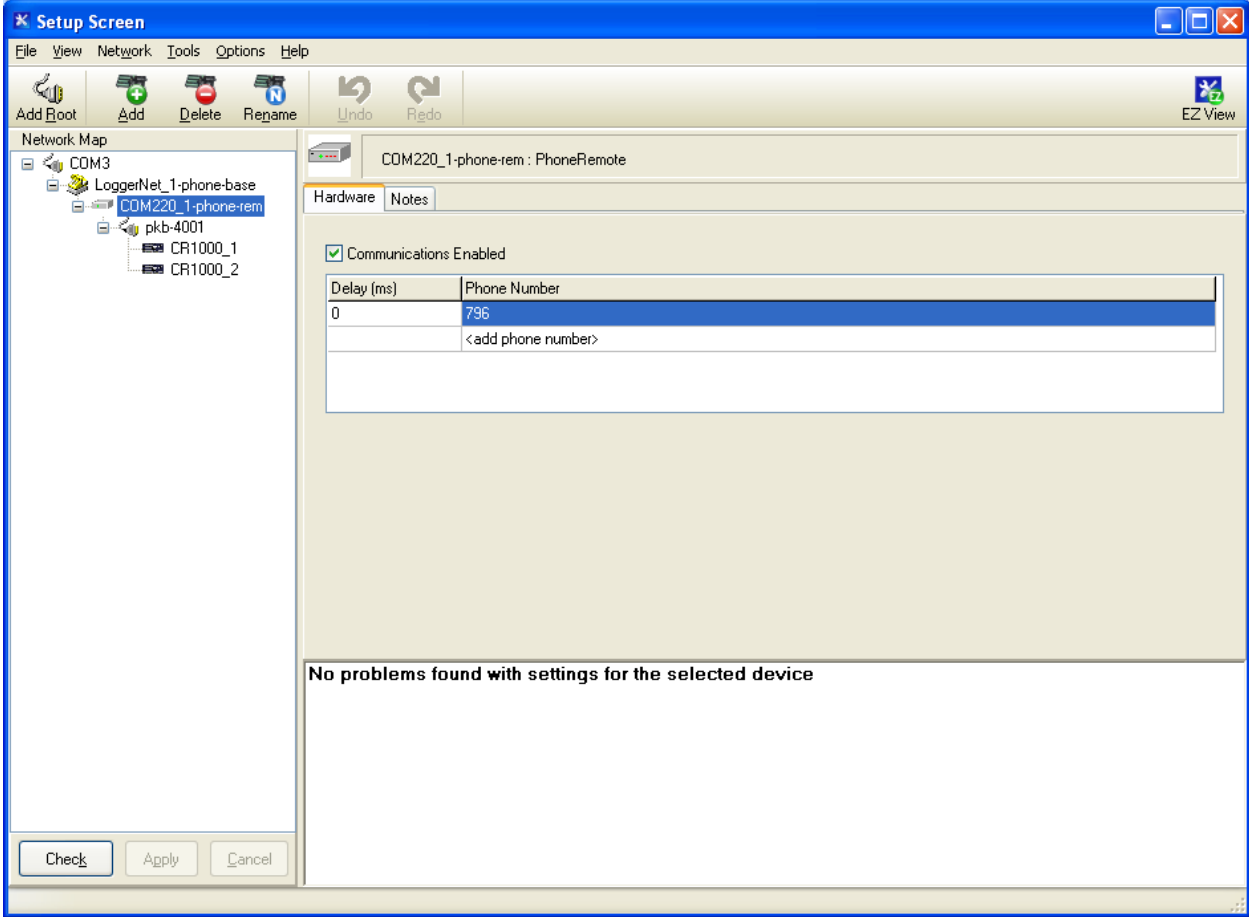

FIGURE I-3. Enter the base site's phone number.
- d. PhoneRemote – input base site’s phone number (see FIGURE I-3)